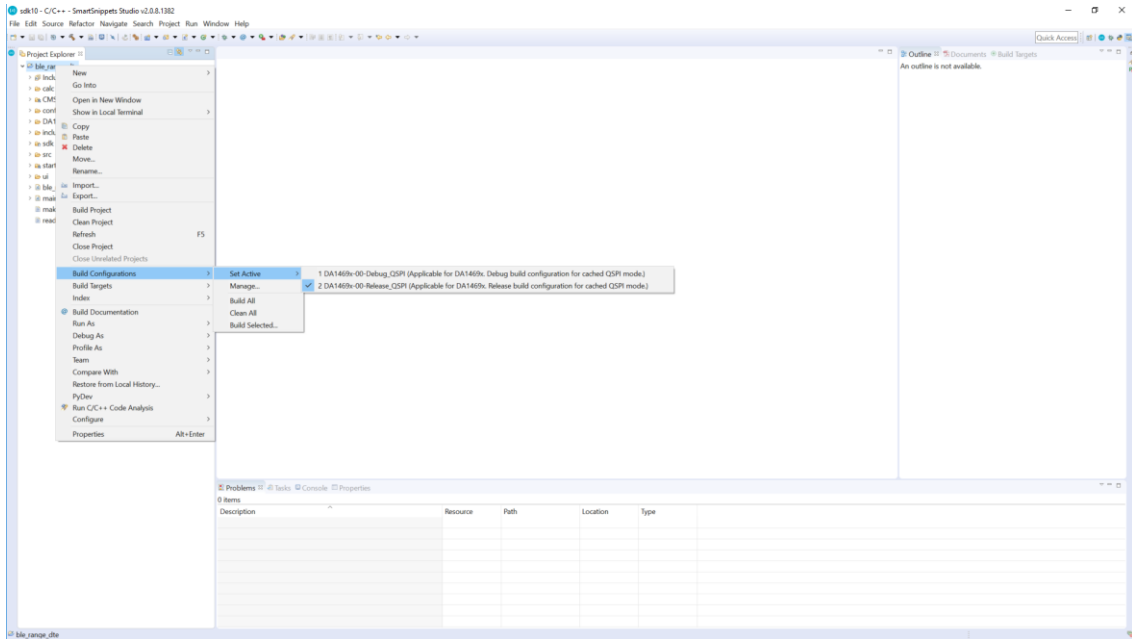

Figure 5: Build Configurations for b1e\_range\_dte Project
2. Select a build configuration and build the ble\_range\_dte project (Figure 5). Right-click on the project name to get the project menu and select **Build Configurations > Set Active** to see configuration options.